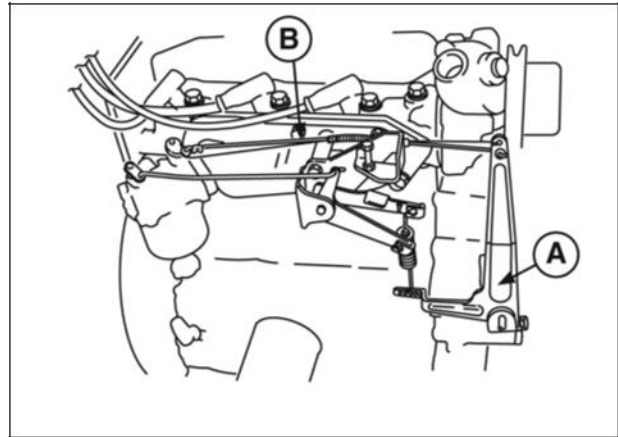

Figure 24
17. Install governor lever (A, Figure 24) on to governor shaft. Do not tighten governor nut at this time.
18. Install governor link with spring (B).